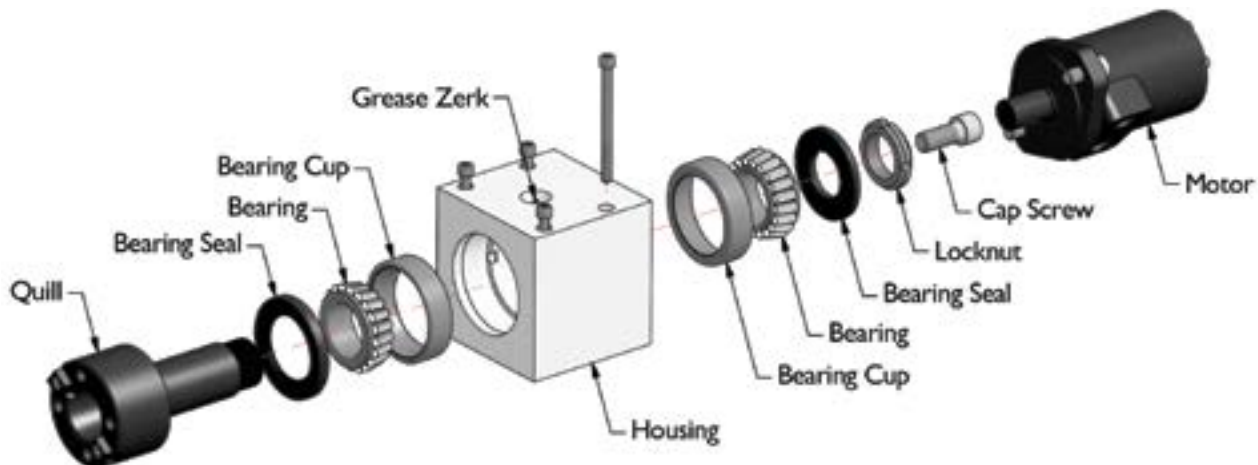

Figure 11 - Mill Head Assembly Maintenance
2. Make sure the spindle turns smoothly. If the mill head requires maintenance or cleaning, refer to Figure 11 for mill head assembly details. Inspect all components for excessive wear or damage. Clean the mill head bores. Apply a light coat of grease to all housing bore surfaces. Apply anti-seize lubricant to screw threads. Assemble the mill head and attach to the slide assembly.